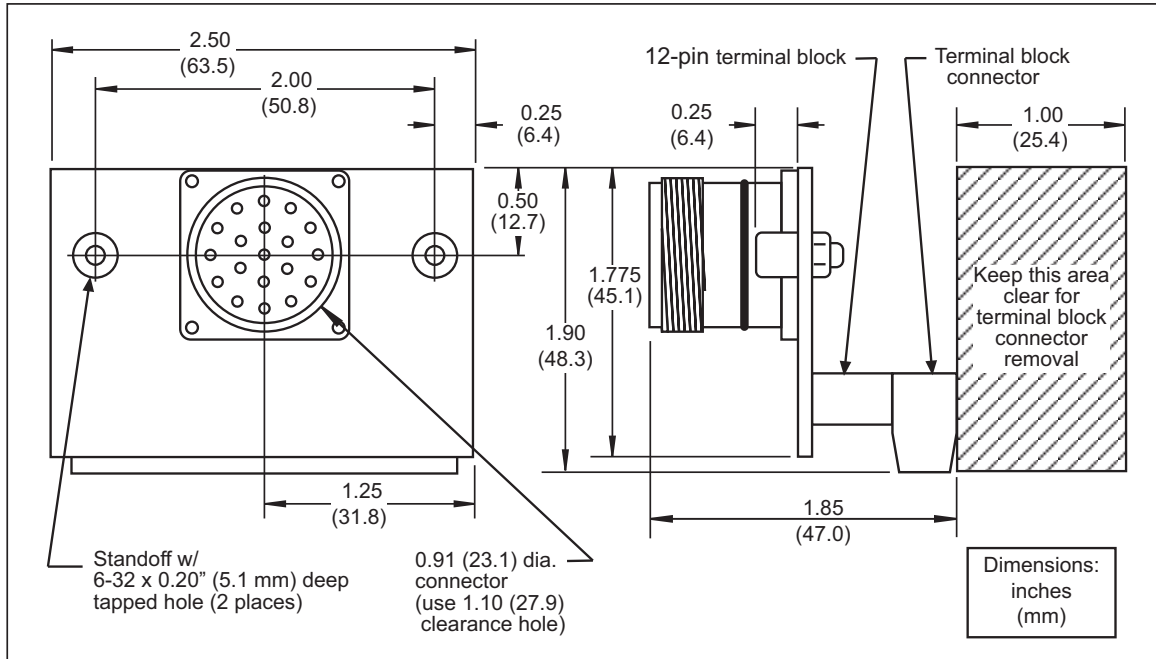

Figure 3-6. HD19 PC Board: Mounting Dimensions
1. Install the HD19 PC board in your die-mounted junction box (see Figure 3-6 for mounting dimensions).